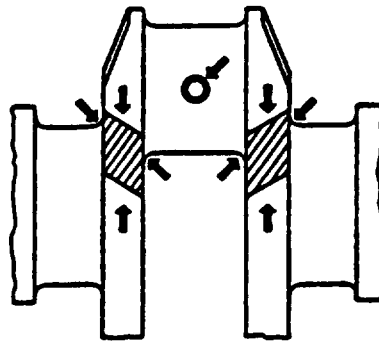

FIGURE 3-119. Critical Areas of Crankshaft Load Stress
- (1) Clean crankshaft using dry cleaning solvent (P-D-680) and compressed air.
- (2) Inspect oil passages to make sure they are open. Use compressed air and a small piece of wire.
- (3) Inspect crankshaft for any signs of load stress, cracks, scoring, or scratches on journals. (An inspection must be made if the crankshaft damper was found to be damaged or defective.) FIGURE 3-119 shows critical areas of load stress in a crankshaft.